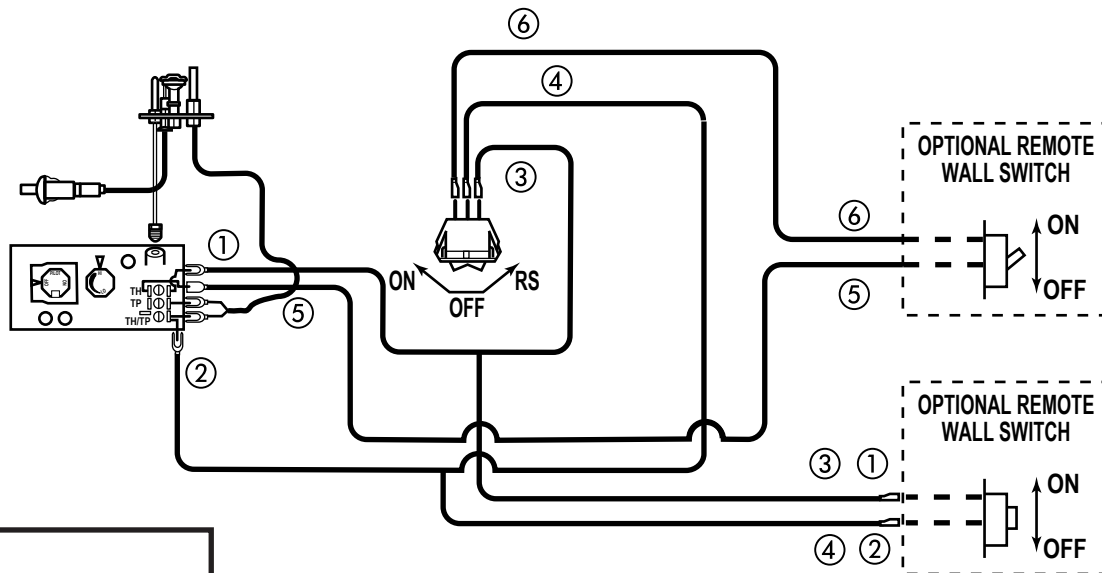

Figure 38 - Wiring Diagram for Wall Switch
A remote wall switch and up to fifteen (15) feet of 18 Ga. wire may be used with this appliance. Attach the wall switch in a junction box at the desired location on the wall. See Figure 38. Do not extend beyond the wall switch wire length provided.